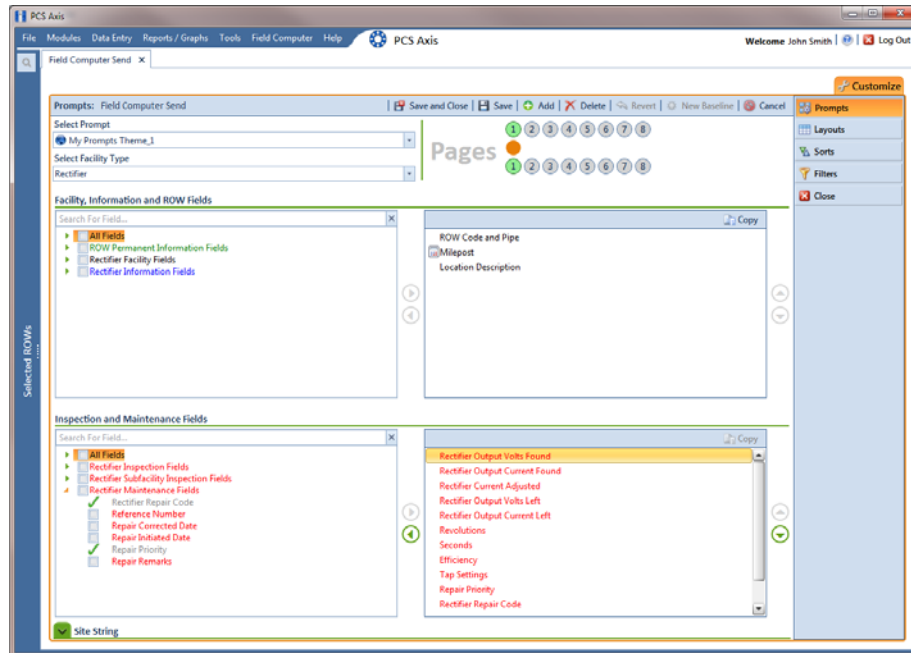

Figure 13-31. Prompts
- 8 Verify the name of the new theme displays in the **Select Prompt** field. If not, click the down arrow and select the theme in the selection list (Figure 13-31, page 592).